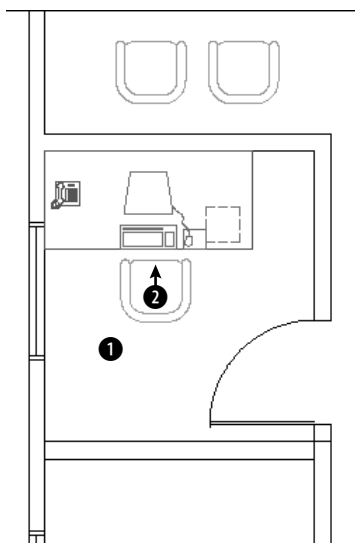

Figure 18-18: An office with a set of office furniture.
1. Open ab18-g.dwg from the CD-ROM. This is a plan of an office building zoomed in to one office. A file containing one set of office furniture has been inserted, as shown in Figure 18-18.
6. Click Pick Point to temporarily return to the drawing. Pick point ❶ in Figure 18-18. Leave the Text Options as they are. Click OK to end the command.